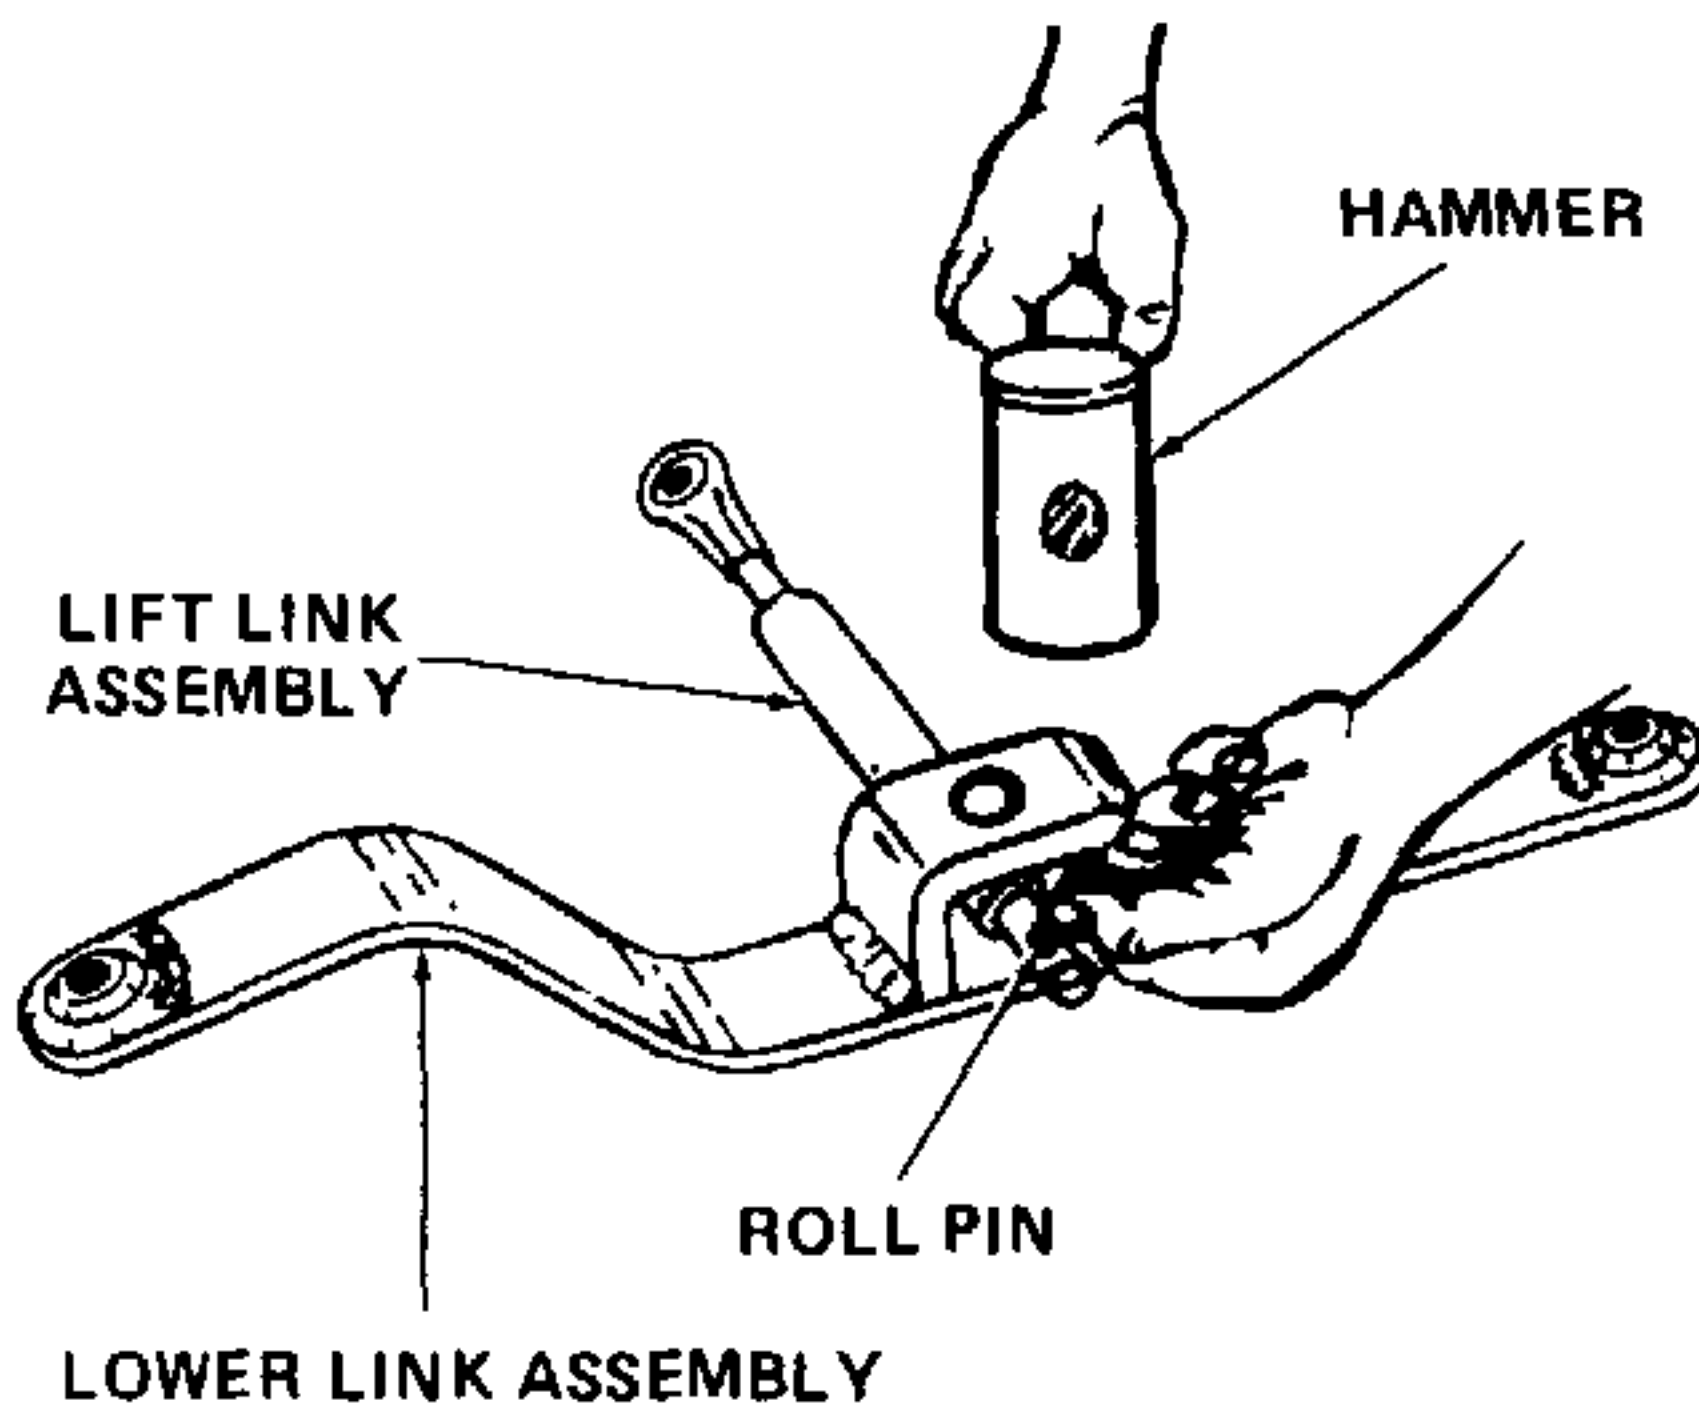

Figure 7-26. Installing Lift Link Assembly into Lower Link Assembly.
13. Install lift link assemblies (2, Figure 7-2) into lower link assemblies (3 and 10) and secure with roll pins (25, Figure 7-1). Refer to Figure 7-26.